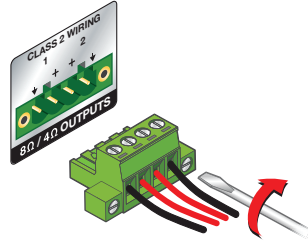

Figure 18. Securing Speaker Connector to Amplifier with Screw Locks
2. Insert the wired connector into the amplifier output, and secure the plug by tightening the screws on either side (see figure 18).